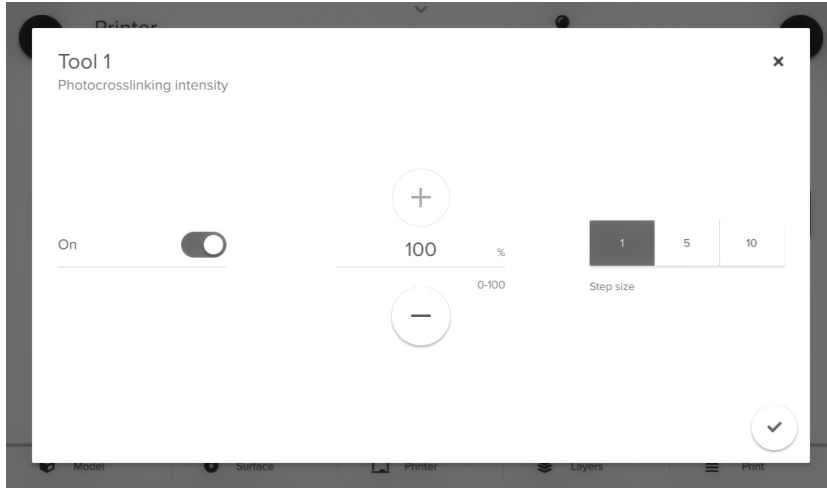

Figure 4: Setting the intensity of the Photocuring Toolhead.
6. Turn on the Photocuring Toolhead by selecting the intensity menu (Figure 3A). Set an intensity (Figure 4) and turn on the toolhead. The lamp changes from green to blue when the UV light is activated (Figure 3B).